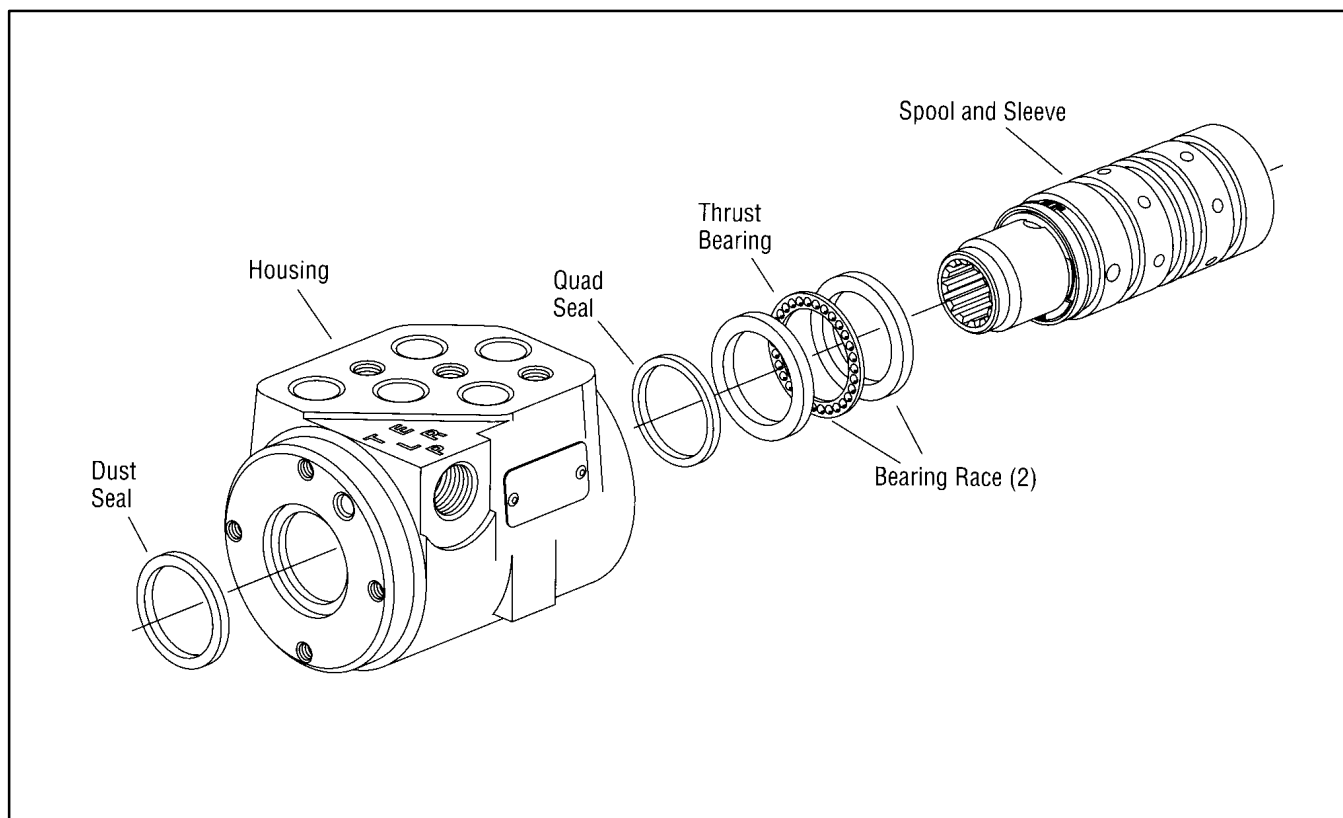

Figure 135
3. Slide the spool and sleeve from the housing (Fig. 135).
8. Put the thrust bearing and races into the housing. The thrust bearing goes between the two races (Fig. 135).